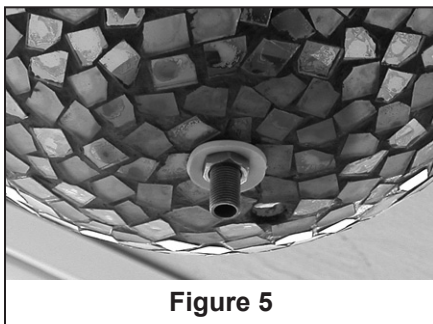

Figure 5
5. Carefully fasten hex nut onto the threaded rod while supporting Rubber Washer and Glass Bowl (sold separately), do not over tighten. (Figure 5)